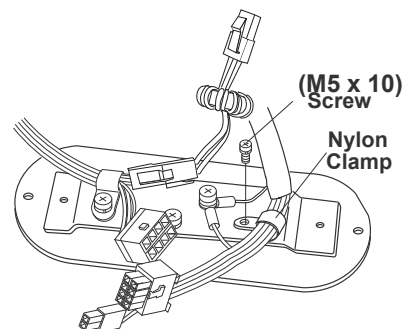
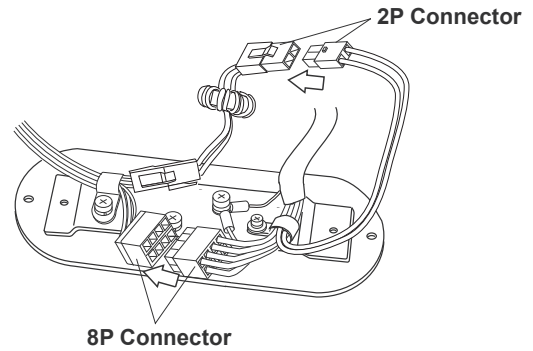

Fig.3-7B Attaching Balance Arm Cable on Bottom Cover
Fig.3-7C Connection of Connectors on Bottom Cover
5. Secure the wires from the balance arm to the bottom cover with the nylon cable clamp to prevent damage from twisting. (**Fig.3-7B**) Then connect the **2P** and **8P** connectors. (**Fig.3-7C**)